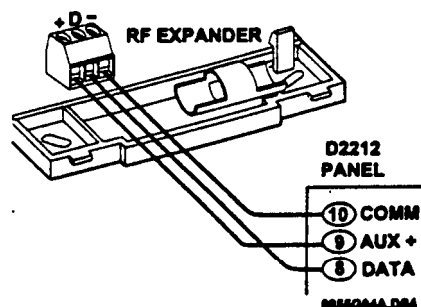

Figure 7. Connecting the Expander to the D2212
2. Connect panel terminals 10, 9, and 8 to Expander terminals -, +, and D, respectively (see Figure 7).